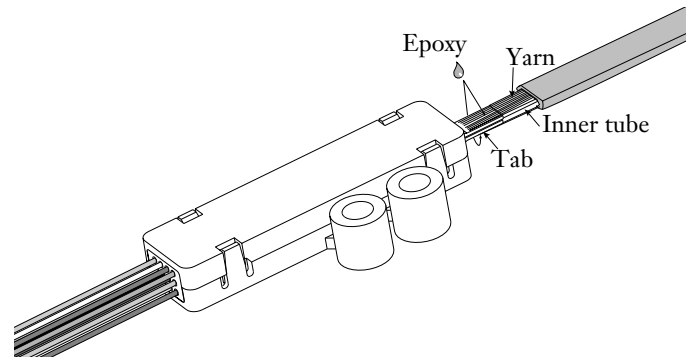

Figure 25
10.7 Apply a small amount of Loctite 411 epoxy on the ribbon tabs. Place the aramid yarn from the fan-out tubing over the ribbon the tabs (Figure 25)